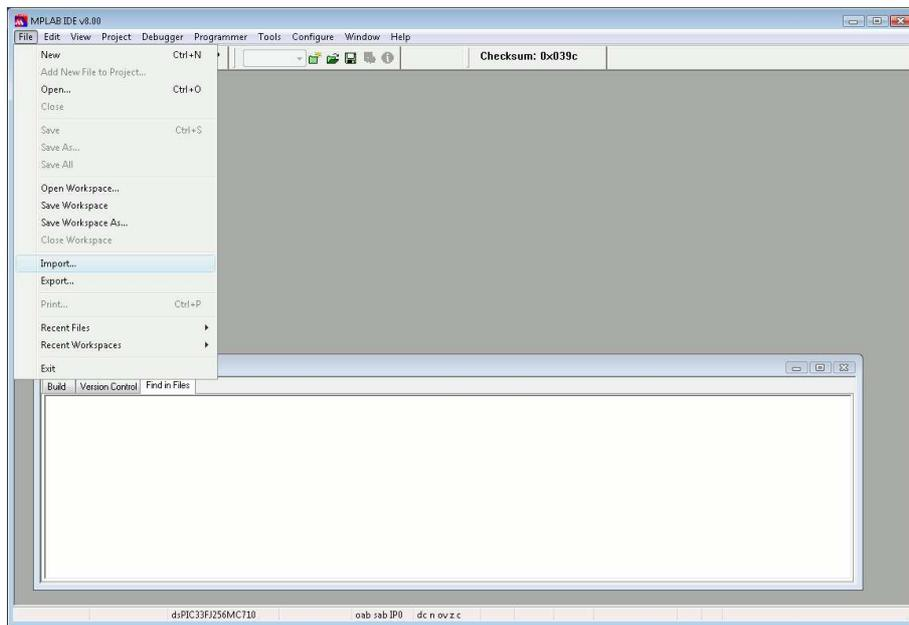

Figure 5.9: Choose “Import...” from the “File” menu to import the coff file produced in Eclipse.
- Choose "Import..." from the "File" menu, as in Figure 5.9.